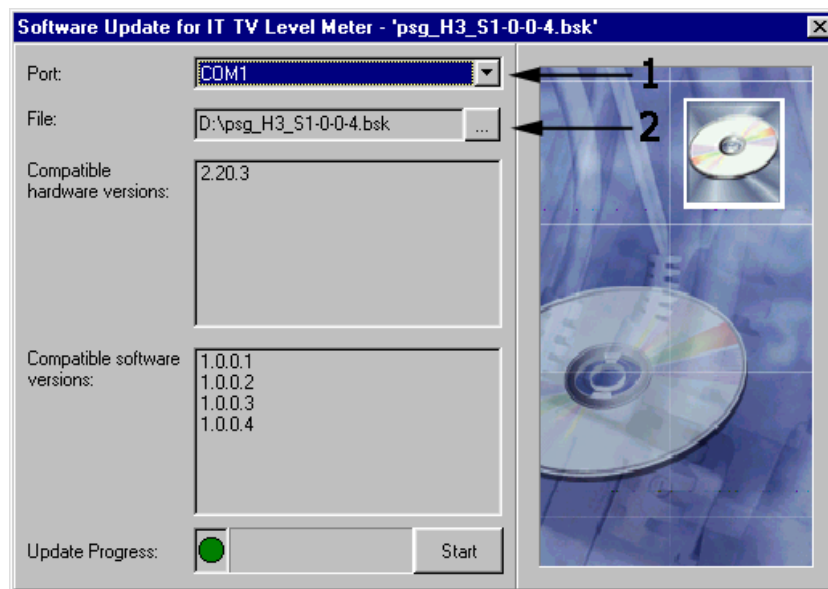

Figure 3.12
- d) start SoftLoader program on your PC. Select serial port of PC, which connects it to the Generator, by clicking (ref. 1) in the program window, as shown in Fig. 3.12;